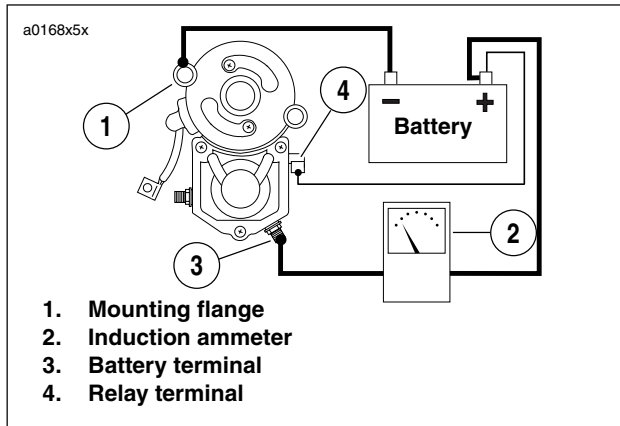

Figure 5-12. Free Running Current Draw Test
2. See Figure 5-12. Attach one heavy jumper cable (6 gauge minimum).
- a. To the starter mounting flange (1).
- b. To an inductive ammeter (2). Continue on to the battery terminal (3) on the starter solenoid.
- b. To the solenoid relay terminal (4).